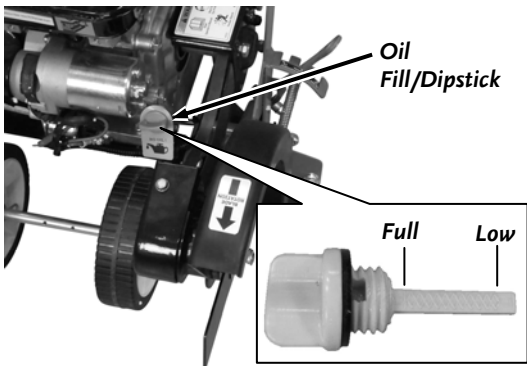

Figure 7
1. Position the machine so the Frame and Engine are level. Remove the Oil Fill/Dipstick (**Figure 7**) and clean the end of it with a rag.